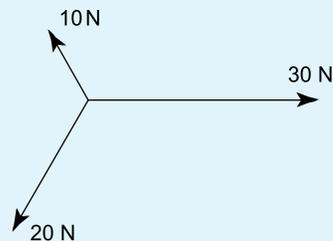
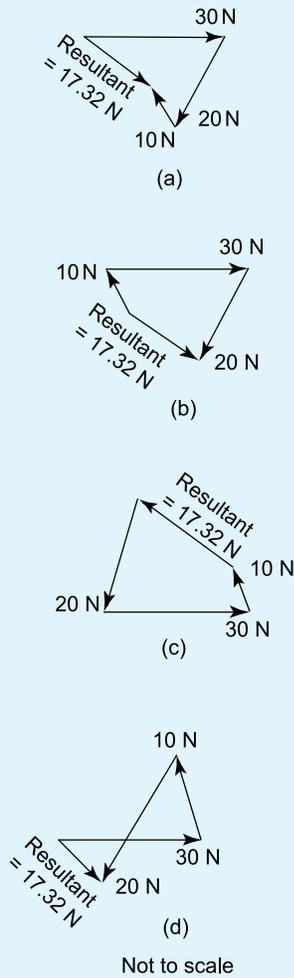

Figure 4.32
Figure 4.33
11. A space diagram of a force system is shown in Figure 4.32. Which of the vector diagrams in Figure 4.33 does not represent this force system?